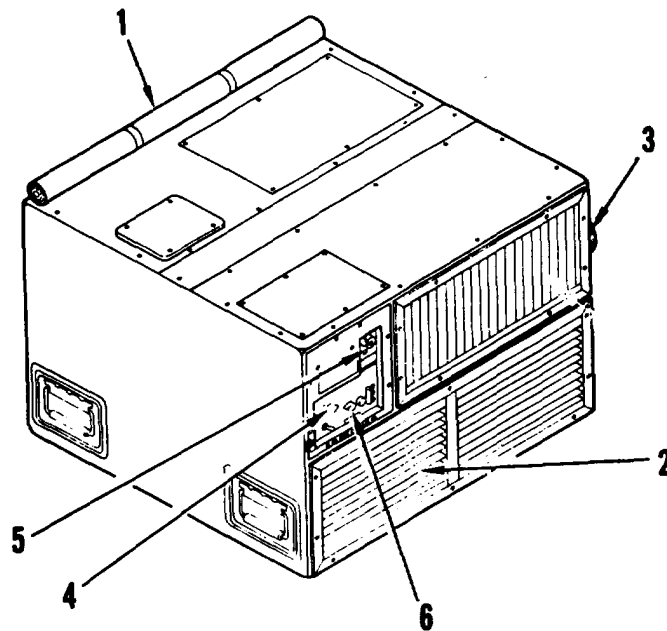

Figure 2-8. Starting instructions for heating.
d. Starting Instructions for Heating (See Figure 2-8). Start the air conditioner for heating as follows: